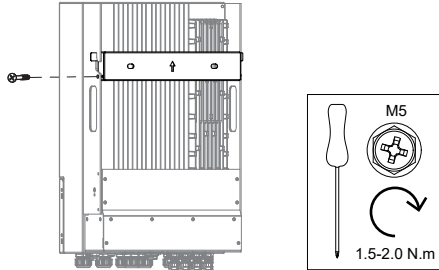

Fig. 2.3 Wall mounted bracket
- Lift the inverter and align the rear bracket of the inverter with the convex of the mounting bracket. Hang the inverter on the mounting bracket and make sure it is secure (see Figure 2.3).